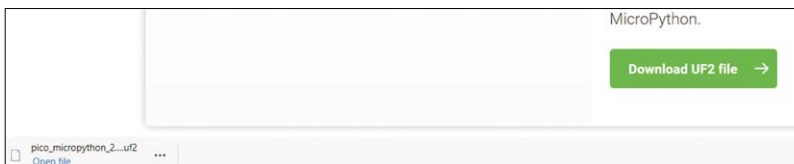

Figure 2.18: Download the "UF2" file.
- Click on the **Getting started with MicroPython** tab and click **Download UF2 file** to download the **MicroPython** firmware. You should see the downloaded file at the bottom of the screen. This will take only a few seconds (Figure 2.18).